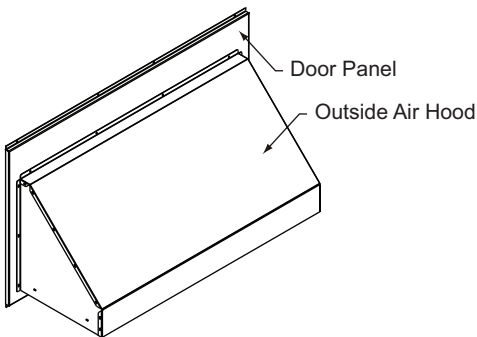

Fig. 43 — Assemble the Outside Air Hood
2. To assemble outdoor air hood (shown in Fig. 43):
4. After the slides are in the desired position, secure the outdoor air hood to the door panel using the provided No. 10-16 x 1/2 screws as shown in Fig. 43.